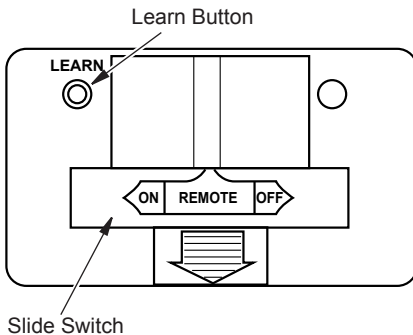

Figure 24 - Receiver
1. Place the slide switch on the receiver in the remote position (see Figure 24).